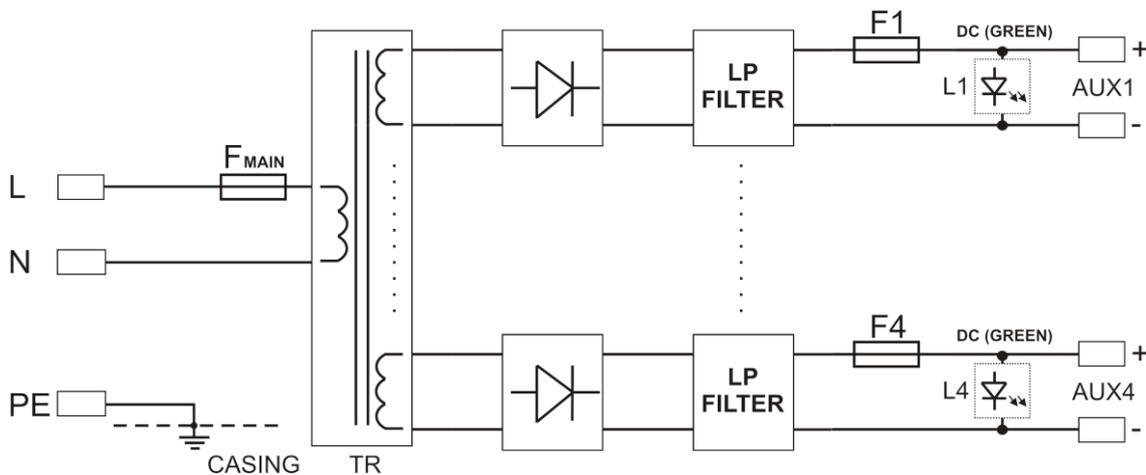

Fig.1. Block diagram of the PSU.
1.2 Block diagram (Fig.1).
A typical application of the PSCU04343SEP power supply is supplying four CCTV cameras using four-pair twisted pair cable, where three pairs are used for power distribution and one pair for transmitting video signal. Schematic example of the installation is shown in Figure 1. The distance between the PSCU04343SEP power supply unit and the DC/DC converters depends on the type of cable used and the current drawn by the camera. The typical distances are shown in Table 7.